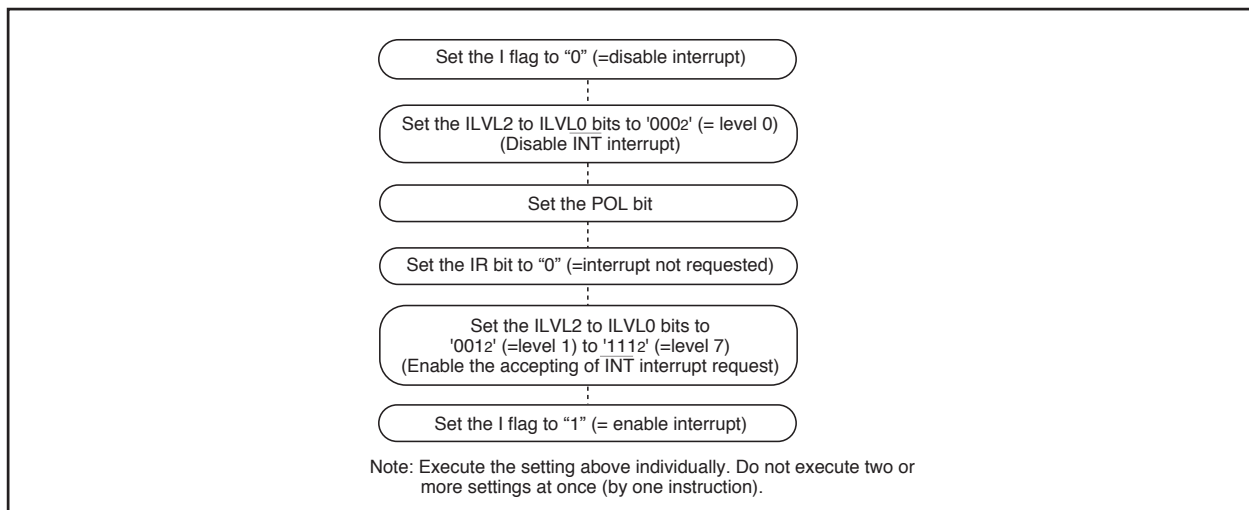

Figure 1.9.12. Switching Procedure for INT Interrupt Request
(1) Reading Address 00000₁₆
(2) SP Setting
- When the polarity of the $\overline{\text{INT}}_0$ to $\overline{\text{INT}}_3$ pins is changed, the IR bit is sometimes set to "1" (=interrupt requested). After changing the polarity, set the IR bit to "0" (=interrupt not requested). Figure 1.9.12 shows the procedure for changing the $\overline{\text{INT}}$ interrupt generate factor.
(4) Watchdog Timer Interrupt